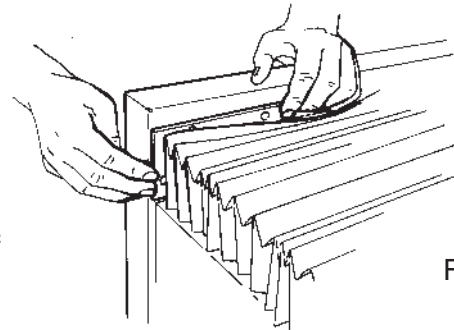

FIG. 10
4. Attach the outer end of each bellows to the Grinder leg panel. See FIG. 10. Use six bolts, and hex nuts, at each end. The bolt heads go on the bellows side of the brackets.